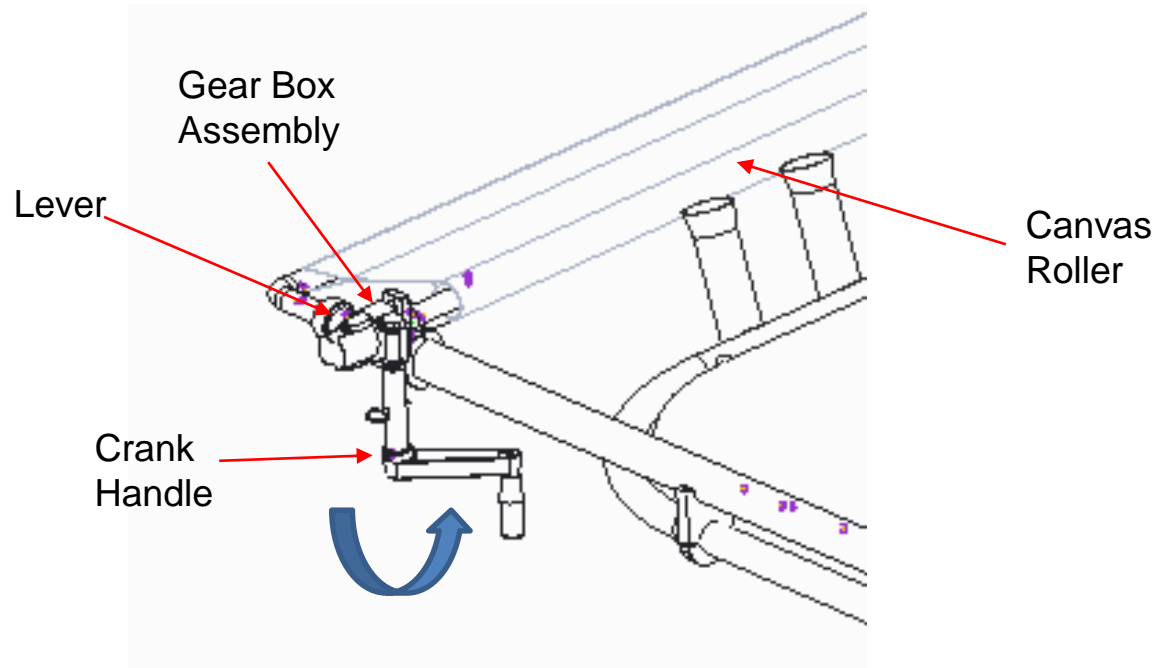

Figure 6
- Re-position the shade assembly if needed to ensure crank handle can rotate without obstruction. See Figure 6